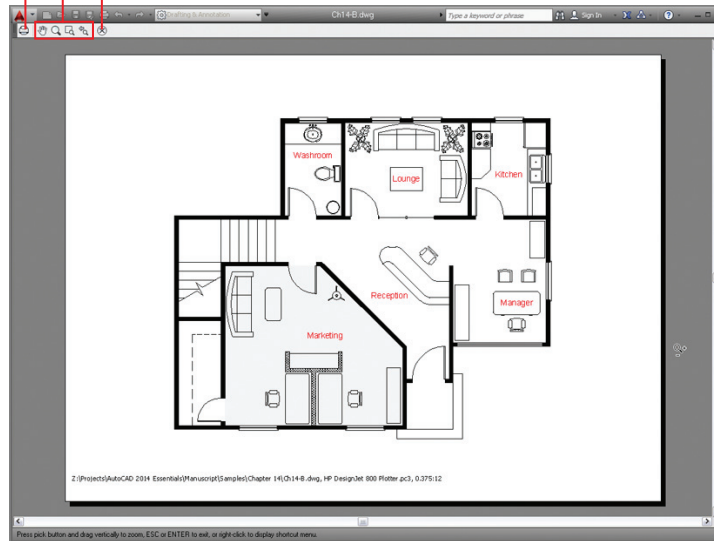
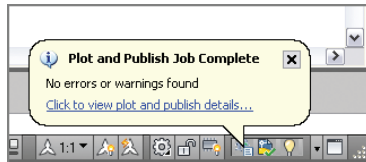

FIGURE 14.25 What you see is what you get in the plot preview window.
FIGURE 14.26 Plot notification window
7. Click the Preview button in the Plot – Model dialog box. Click Continue in the Plot – Plot Scale Confirm dialog box that appears. A preview window temporarily replaces the user interface (see Figure 14.25).
8. Click the Plot icon, as shown in Figure 14.25. The plot is immediately sent to the hypothetical HP DesignJet 800 output device. If this device were really attached to your computer, it would start plotting within a few seconds. Once the plot has been sent, a notification window appears in the lower-right corner of the user interface (see Figure 14.26). The plot is complete; click the close box in the notification window.